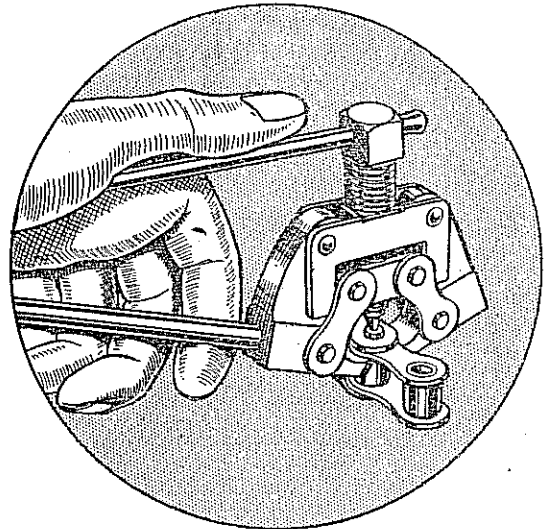

Fig. 27.
3. Place chain in the jaws of the extractor and release grip. The jaws must grip the rollers. (Fig. 27).